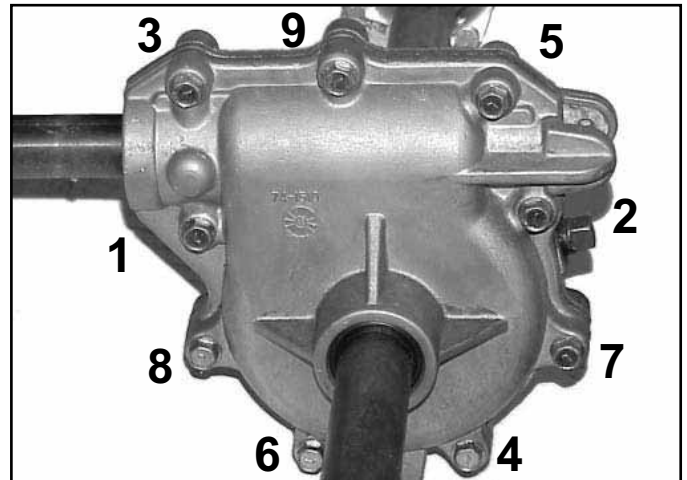

Fig 097
8. Apply a light coat of oil or anti-seize to the gear case screws. Tighten them in an X pattern to 120 in-lbs. (15kg/m) (Fig. 097).